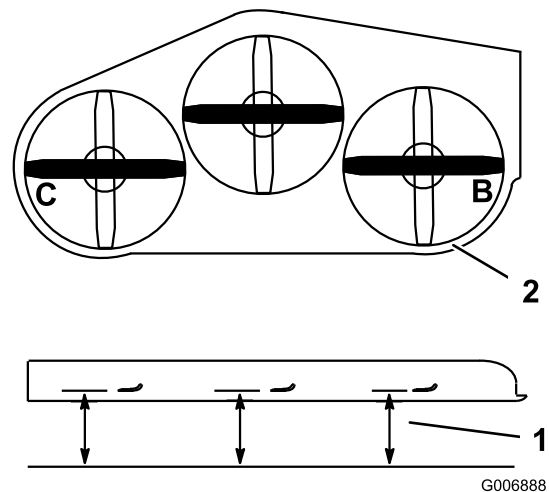

Figure 86
3. Position the blades side-to-side. Measure at **B** and **C** locations from a level surface to the cutting edge of blade tips (Figure 86).